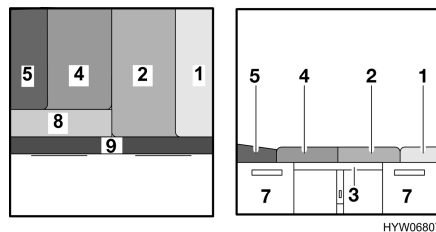

Fig. 37 After conversion
- Place both seat cushions (Fig. 37,2 and 4) in the centre.
- Insert the back cushions (Fig. 37,1 and 5) between the seat cushions and the wall.
- Place the additional cushions (Fig. 37,8 and 9) on the bedding box extension.